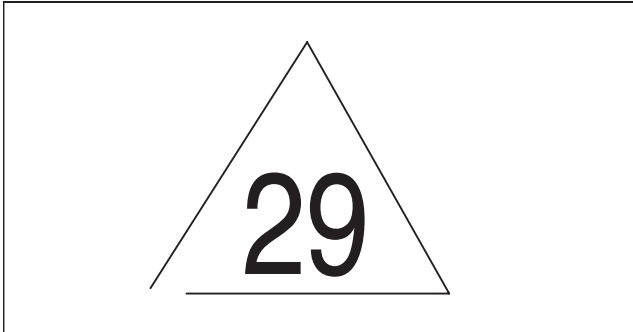

Fig. 2.25
25. Note to look on the machined flange of the carrier for a stamping indicating the divergence from zero setting for this carrier. (Fig. 2.25)